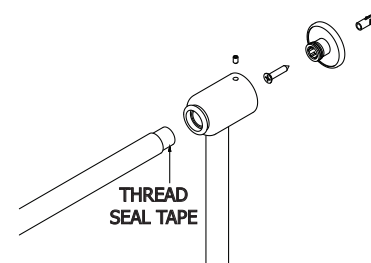
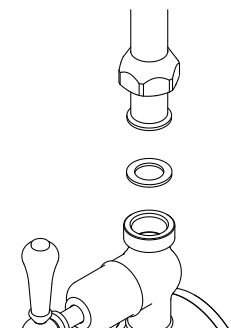

Fig. 3
Fig. 4
- Use all components provided to install the riser into the wall and the mixer as seen in Fig. 3 and Fig. 4; Use thread seal tape on the shower arm thread;